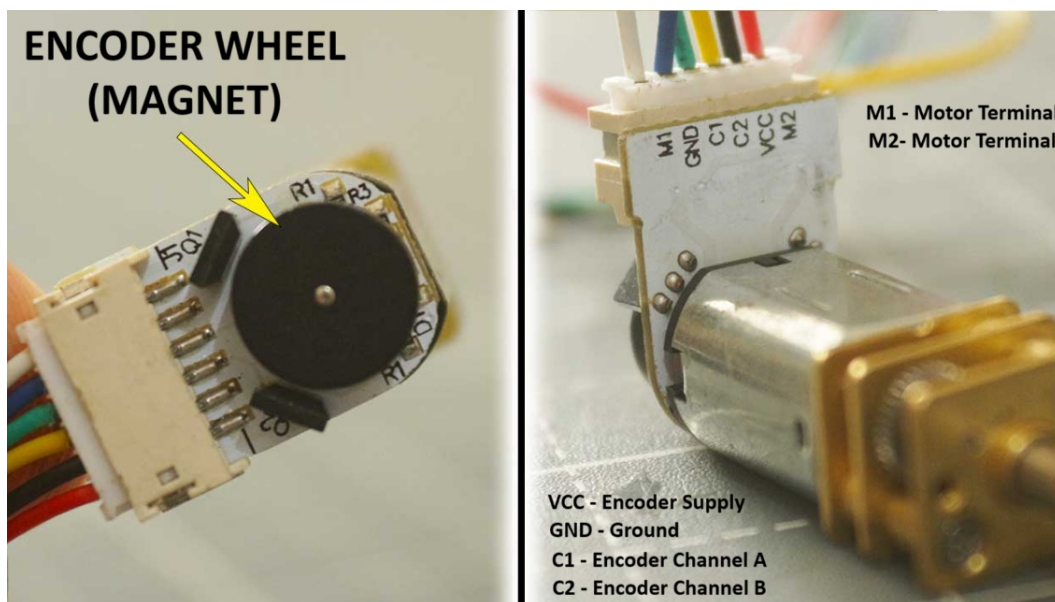

Figure 1: N20 DC motor magnet
4. **Manual Rotation:** Spin the magnet/encoder wheel (see Figure 1) manually until the output shaft completes a full revolution. You will see the encoder count increase in the serial monitor.